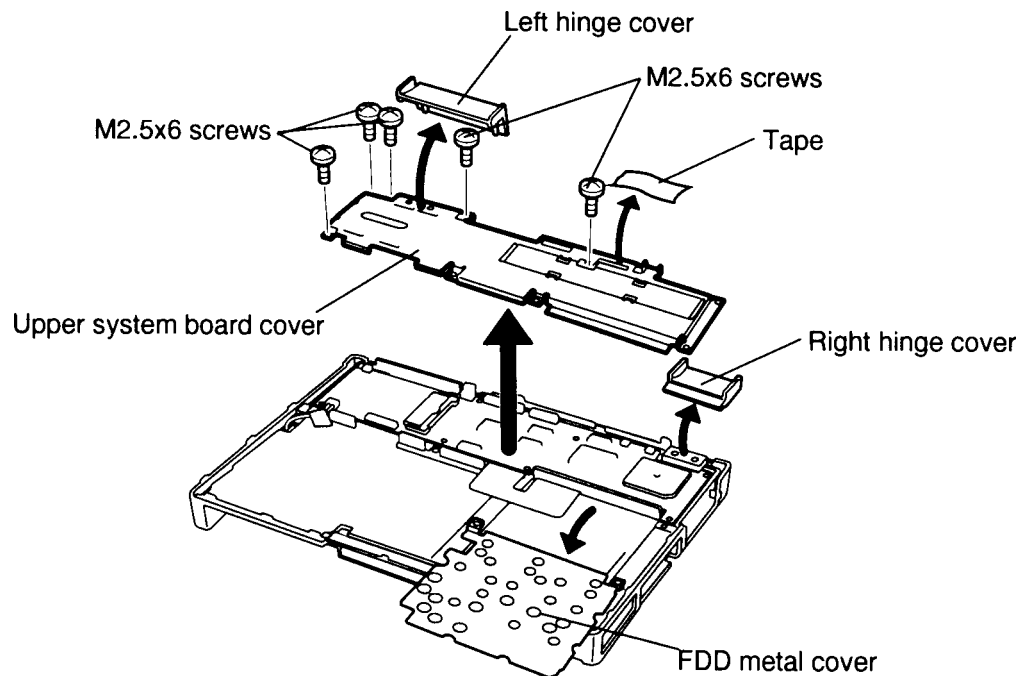

Figure 4-25 Removing the upper system board cover
To remove the T4850CT's upper system board and power supply board, follow the steps below and refer to Figures 4-25 through 4-27.
4. Lift off the **upper system board cover**, the **FDD metal cover**, and the **right hinge cover** (Figure 4-25).
5. Set in place the **FDD metal cover, right hinge cover and upper system board cover** (Figure 4-25).
6. Secure the **upper system board cover** with **five M2.5x6 screws** and set the **left hinge cover** in place, securing it with **tape** (Figure 4-25).